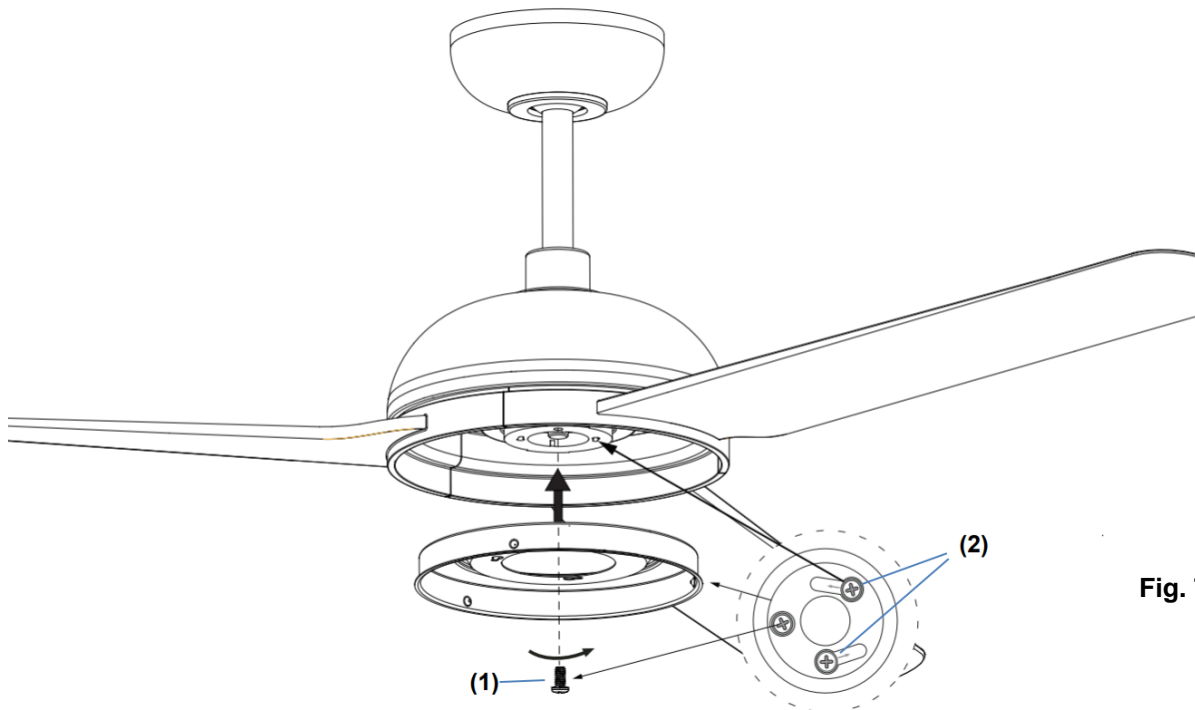

Fig. 7
2. Align the two slot screws with the keyhole slots (2) of the light kit plate. (Fig. 7)
3. Turn the light kit plate counter clockwise until the slot screws are firmly at the end of the slots (2).
4. Secure screw (1) to the lamp shade bracket. Tighten all three screws. Do not over-tighten.